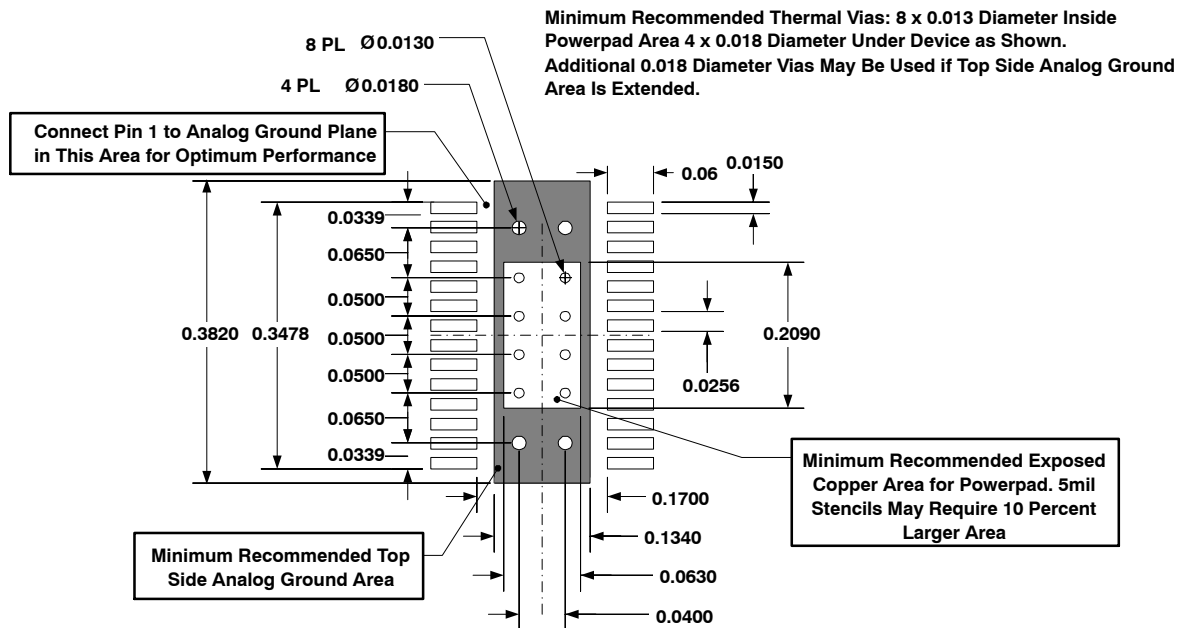

**Figure 9. TPS54880 PCB Layout**
(3) Specified by the circuit used in Figure 9
Figure 9 shows a generalized PCB layout guide for the TPS54880.